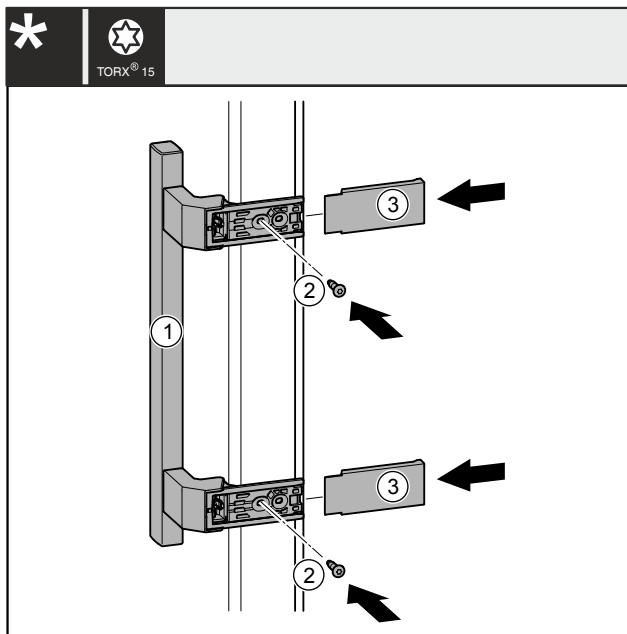

Fig. 41
- ▶ Place the handle Fig. 41 (1) on the opposite side.
- ▶ Tighten screws Fig. 41 (2) with screwdriver.
- ▶ Position the covers Fig. 41 (3) on the side and slide them on so that they click into place.